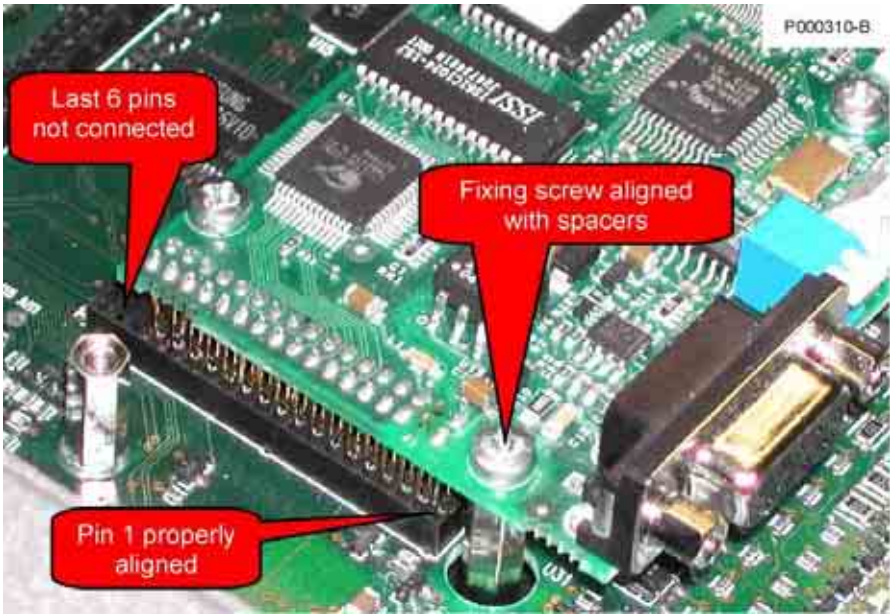
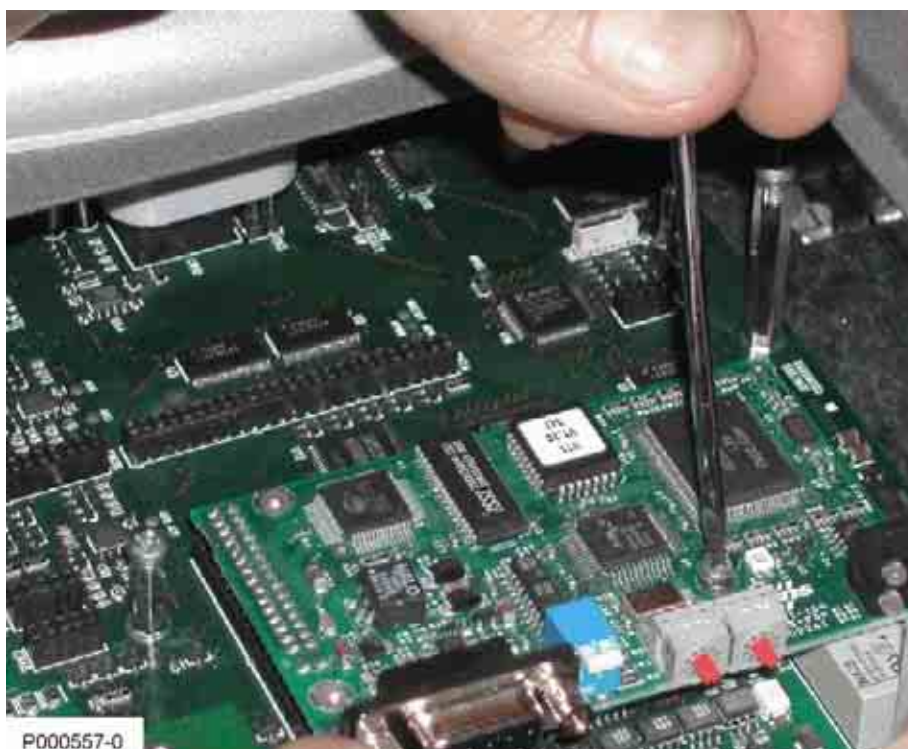

Figure 122: Checking contacts in the slot B
Figure 123: Fastening the communications board to the slot B
- 4) Insert the communications board in the slot B; make sure that the comb connector in the board is inserted in the front part of the slot only, and that the last 6 pins are not connected. If installation is correct, the three fastening holes will match with the housings of the fastening screws for the fixing spacers. Tighten the board fixing screws as shown in Figure 122 and Figure 123.